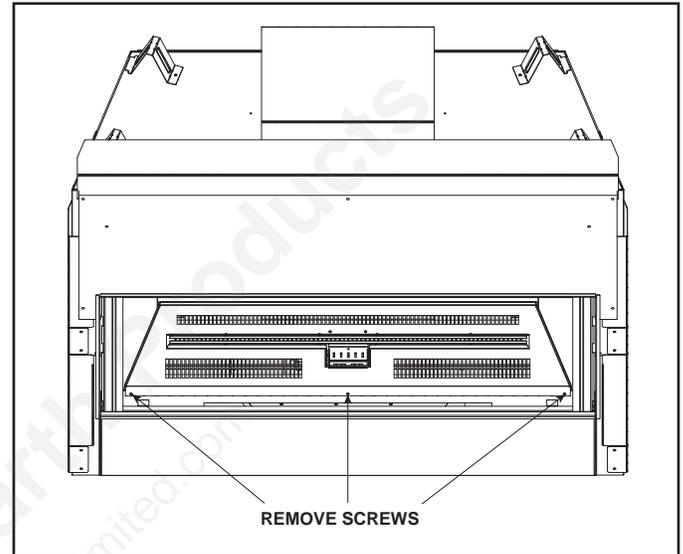

Figure 16.3 Remove Media Tray
2. Remove media tray by removing three screws located on the front edge of the media tray. See Figure 16.3.